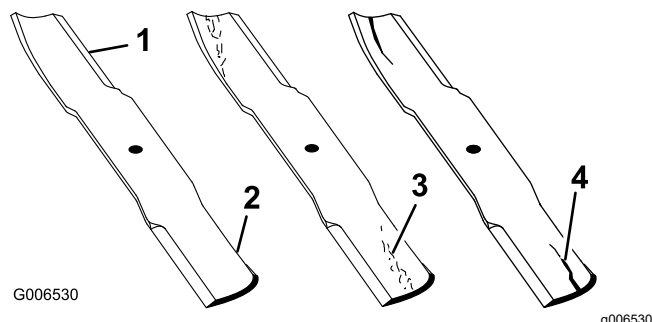

Figure 111
2. Examine the cutting ends of the blade carefully (especially where the flat and curved parts of the blade meet) as shown in Figure 111.
Note: Since sand and abrasive material can wear away the metal that connects the flat and curved parts of the blade, check the blade before using the mower. If you notice wear, replace the blade (Figure 111).